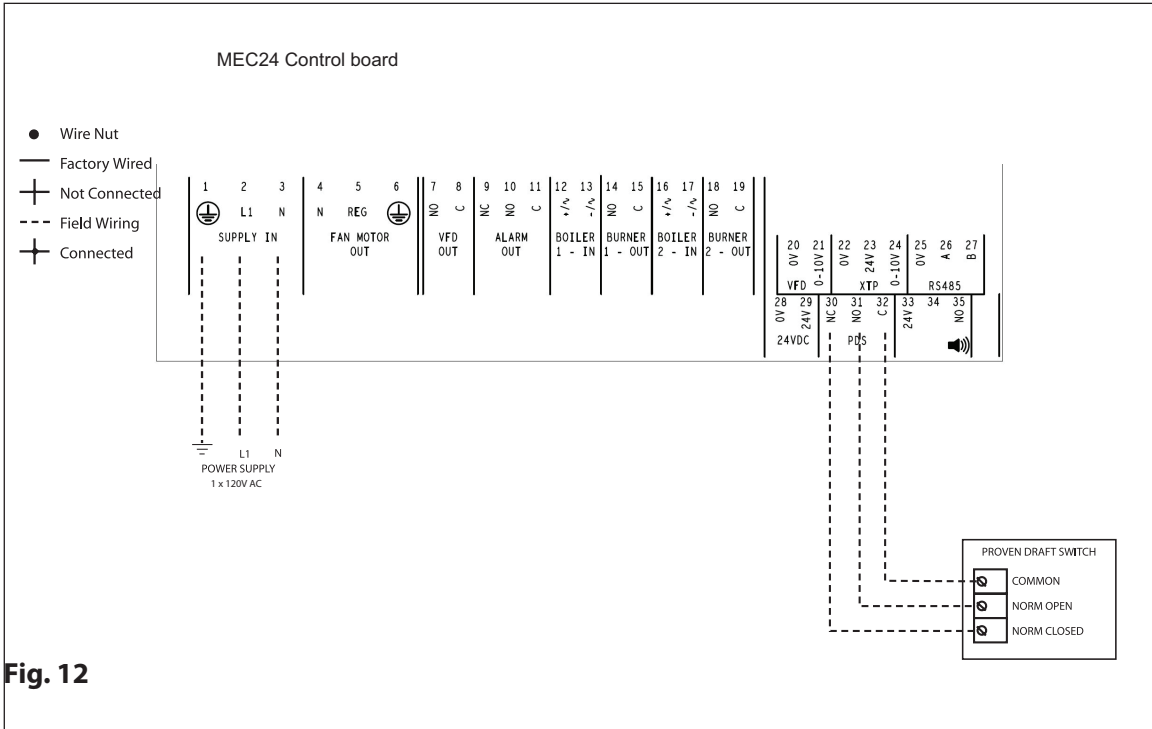

Fig. 12
Fig. 12 shows how to connect a external Proven Draft Switch (PDS) to the MEC24. The external PDS is a backup to the integrated PDS and both must be satisfied by sufficient draft to release the appliance:
- Connect the switch to terminals 30, 31 and 32 as shown on fig. 12.